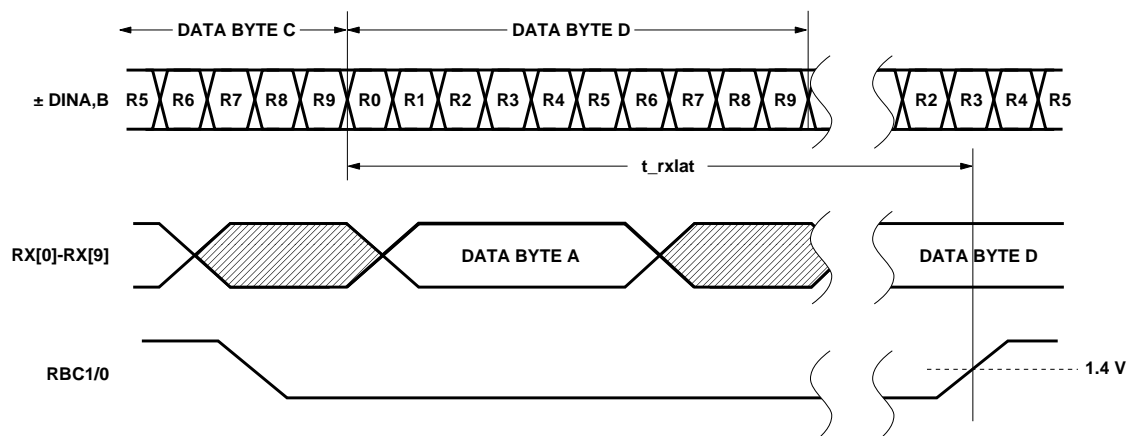

Figure 6: Receiver Latency
3. The receiver latency, as shown in Figure 6, is defined as the time between receiving the first serial bit of a parallel data word (defined as the first edge of the first serial bit) and the clocking out of that parallel word (defined by the rising edge of the receive byte clock, either RBC1 or RBC0).